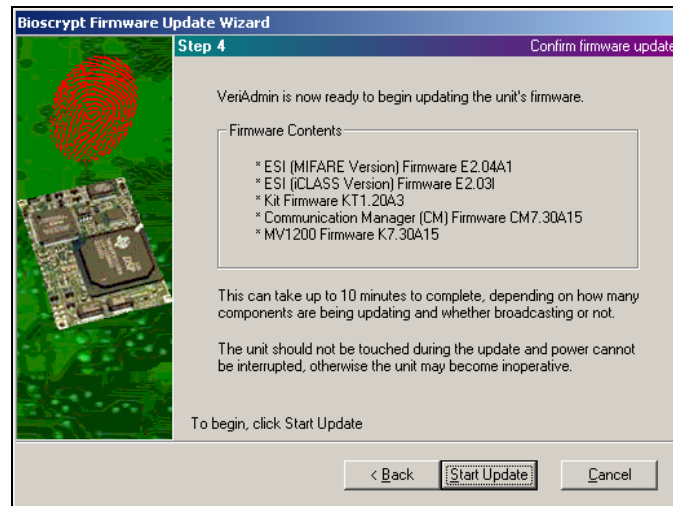

Figure 52: Firmware Update Wizard – Step 4
- **Step 4** is the final step of the wizard (see Figure 52). This is the last chance to confirm the contents of the firmware file and that the unit is indeed ready for updating. To start the update, click **Start Update**. After this, VeriAdmin will backup templates (if that option was chosen), perform the Stepper update (if needed), perform the firmware update, and finally confirm the successful update.